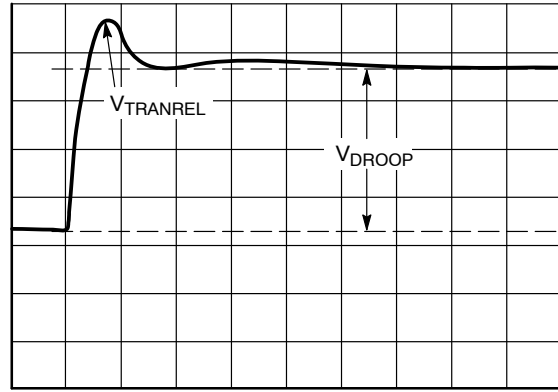

Figure 37. Transient Setting Waveform, Load Release
3. For load release (see Figure 37), if V_{TRANREL} is larger than the value specified by IMVP-6.5, a greater percentage of output capacitance is needed. Either increase the capacitance directly or decrease the inductor values. (If inductors are changed, however, it will be necessary to redesign the circuit using the information from the spreadsheet and to repeat all tuning guide procedures).